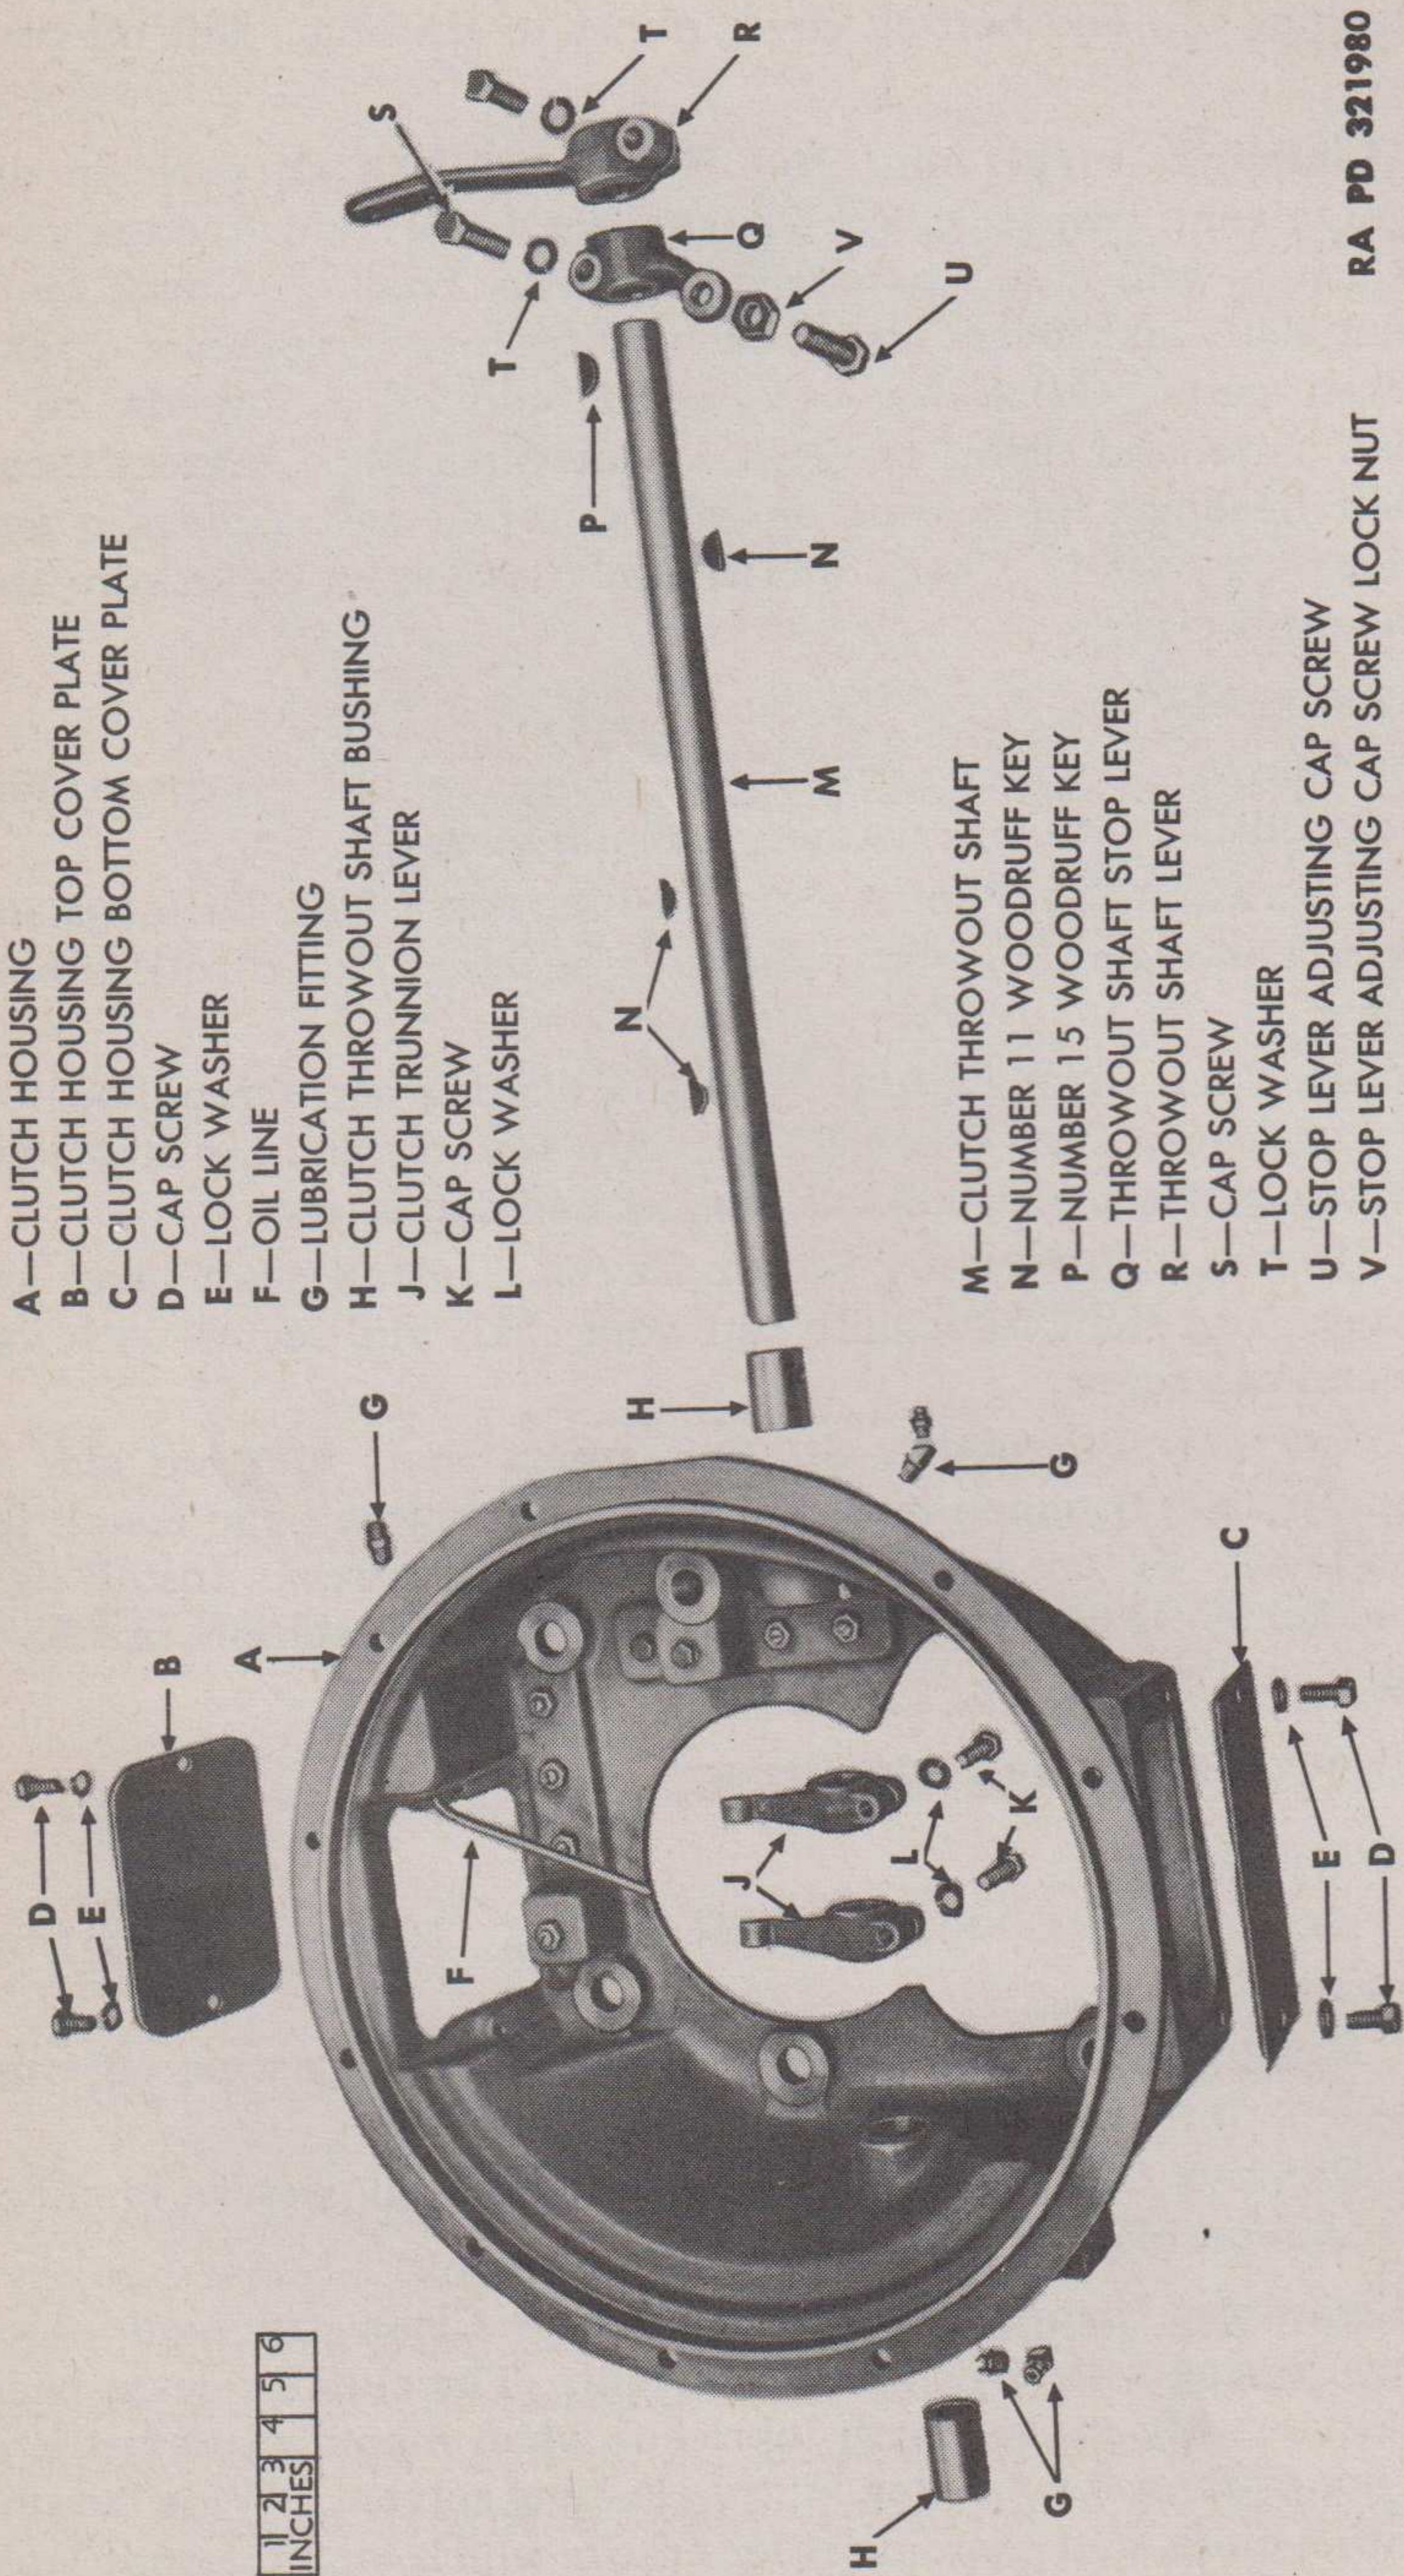

Figure 3 — Clutch Housing Disassembled
a. Disassembly (fig. 3).
c. **Assembly (fig. 3).**